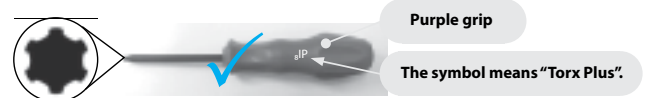

Fig. 1 "Torx Plus" Wrench (For MEW)
- 1. Ref. to Fig. 1 for "Torx Plus" Wrench. (Purple grip)